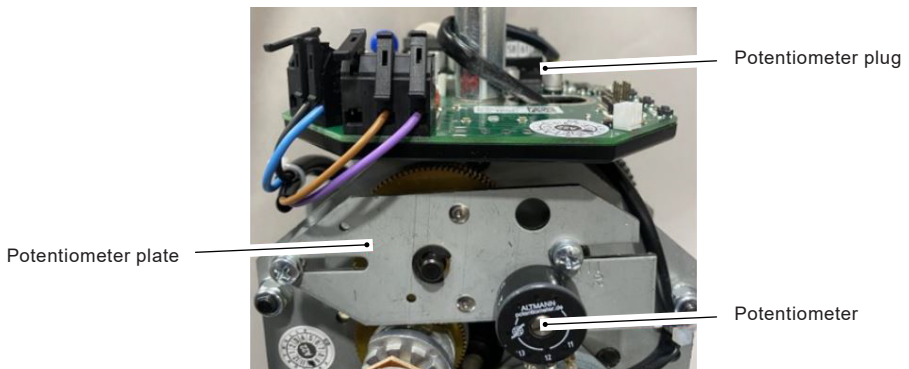

Fig. 14
- Refer to Fig. 14 Potentiometer Installation and Adjustment for product orientation